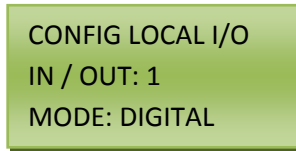

Figure 17.1
- a. This action allows for onboard inputs and outputs to be changed from Digital to Analog. Pressing the Right Arrow changes the IN/OUT number to what input or output it corresponds to. Pressing the Down Arrow will move the cursor onto the colon between the words MODE and DIGITAL. Pressing the Right Arrow will change the Mode from Digital to Analog. Make sure to press ENTER to save the information. See figure 17.1 for an example.